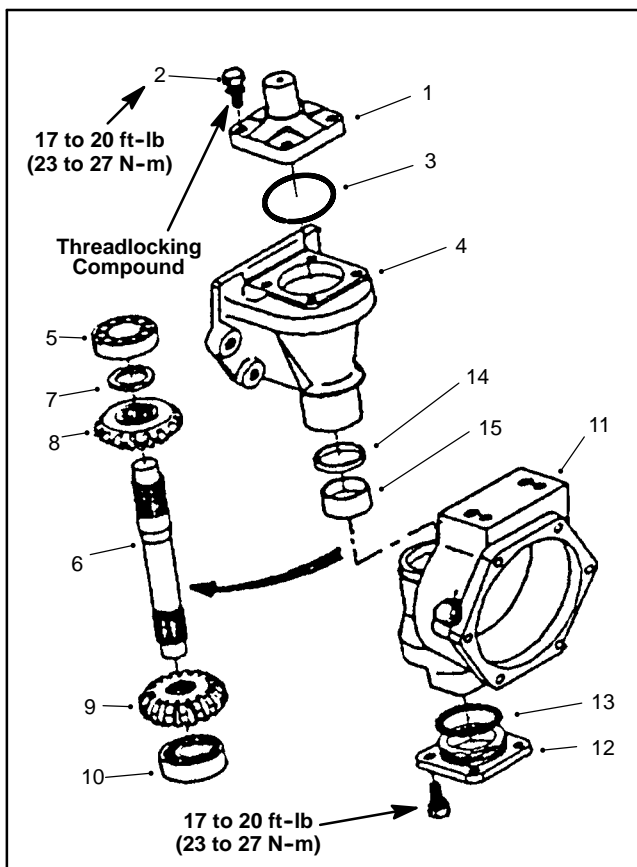

Figure 18
5. Remove the knuckle pin mounting screws and the knuckle pin. Remove the gasket and any remaining gasket material from either mating surface (Fig. 18).
10. Remove and discard bevel gear shaft seal from axle case (Fig. 18).